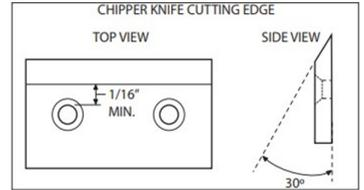

Fig. 18
5. Inspect, rotate, sharpen, or replace the chipper knife. SEE FIGURE 18